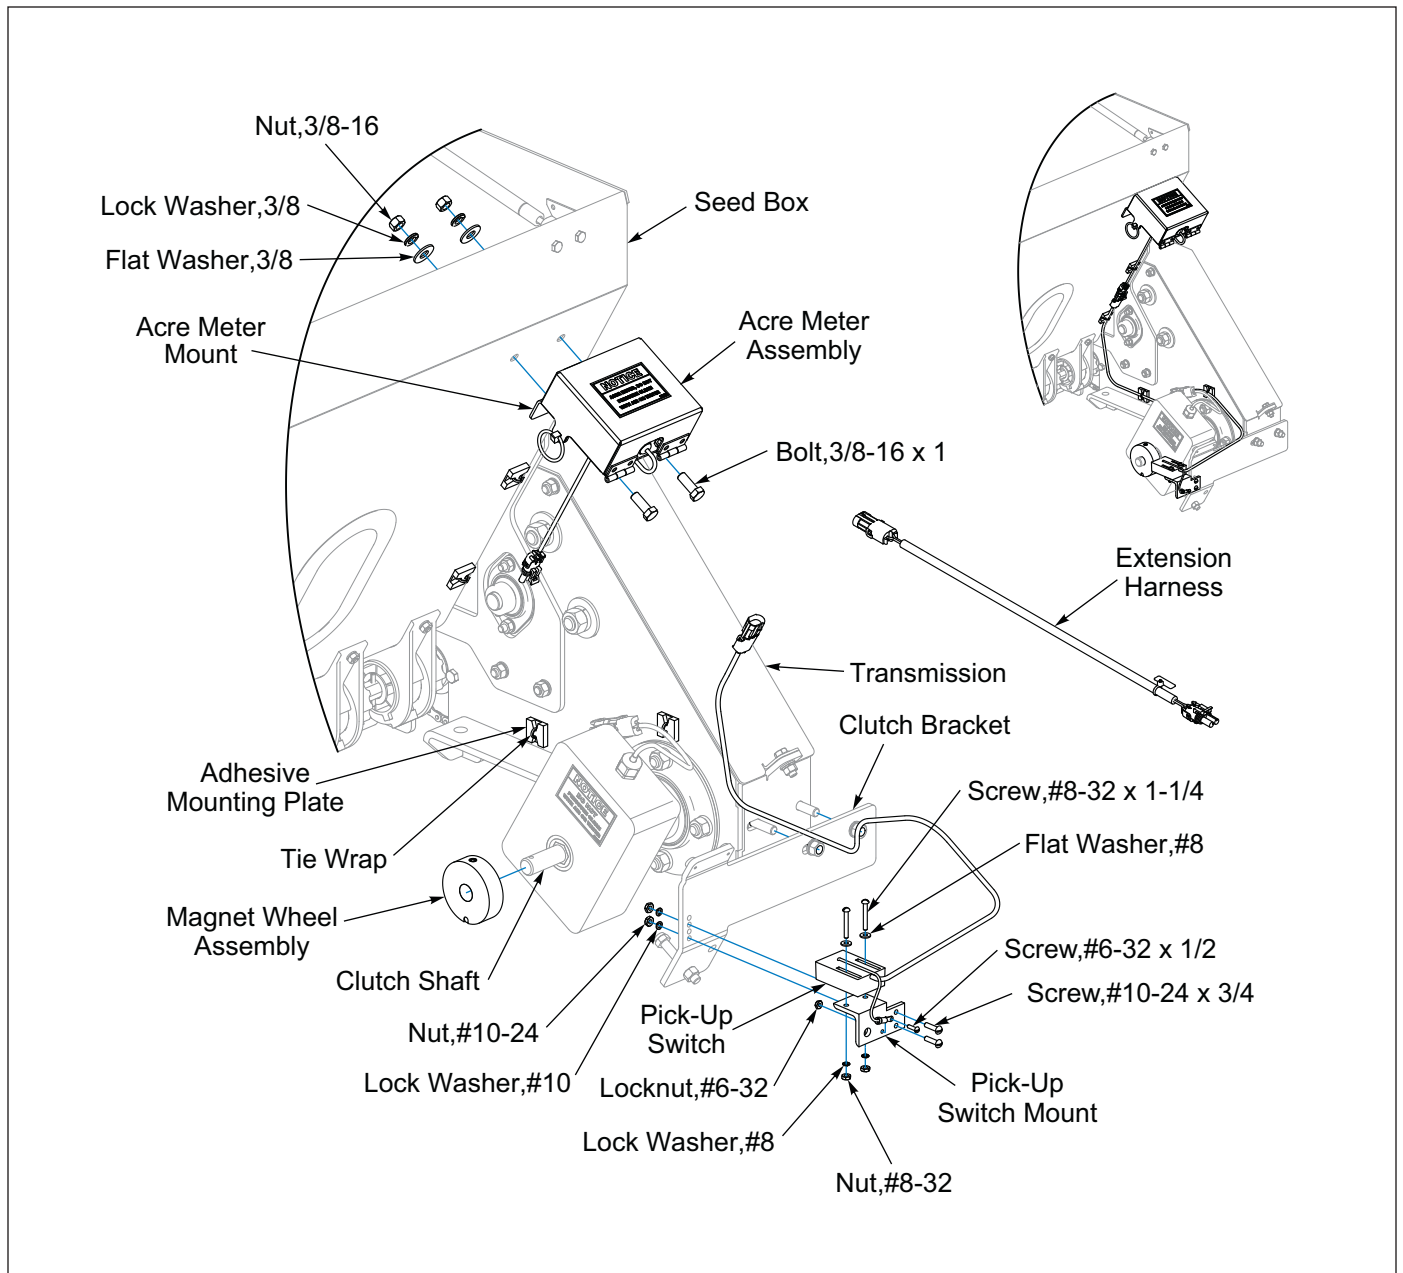

Figure 2-26: Electronic Acre Meter
2. Attach the Acre Meter Assembly to the Seed Box with 3/8-16 x 1 Bolts, Lock Washers and Nuts. **See Figure 2-26.**